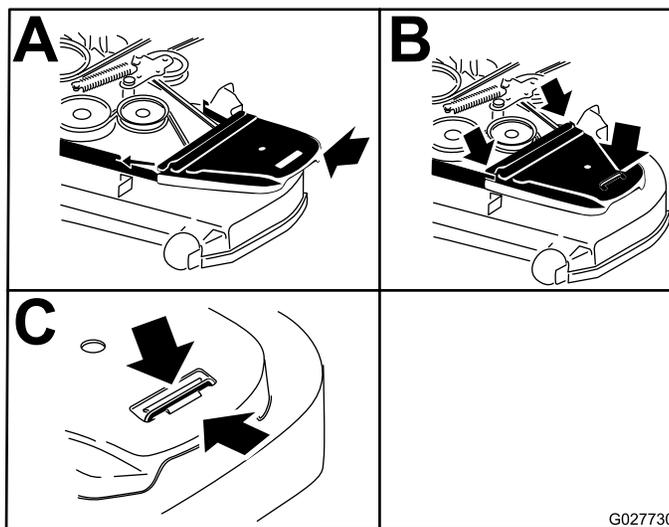

Figure 83
14. Install the belt covers and the bolts attached to them (Figure 83).